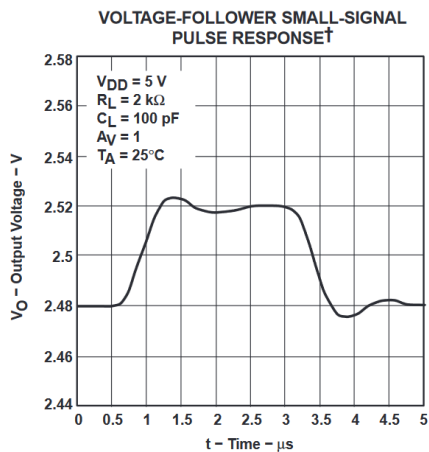

Figure 5-23.
- Where the load is referenced. When the load is referenced to either rail, this condition does not occur. The distortion occurs only when the output signal swings through the point where the load is referenced. Figure 5-23 illustrates two 2k $\Omega$  load conditions. The first load condition shows the distortion seen for a 2k $\Omega$  load tied to 2.5V. The third load condition in Figure 5-23 shows no distortion for a 2k $\Omega$  load tied to 0V.
- Load resistance. As the load resistance increases, the distortion seen on the output decreases. Figure 5-23 illustrates the difference seen on the output for a 2k $\Omega$  load and a 100k $\Omega$  load with both tied to 2.5V.